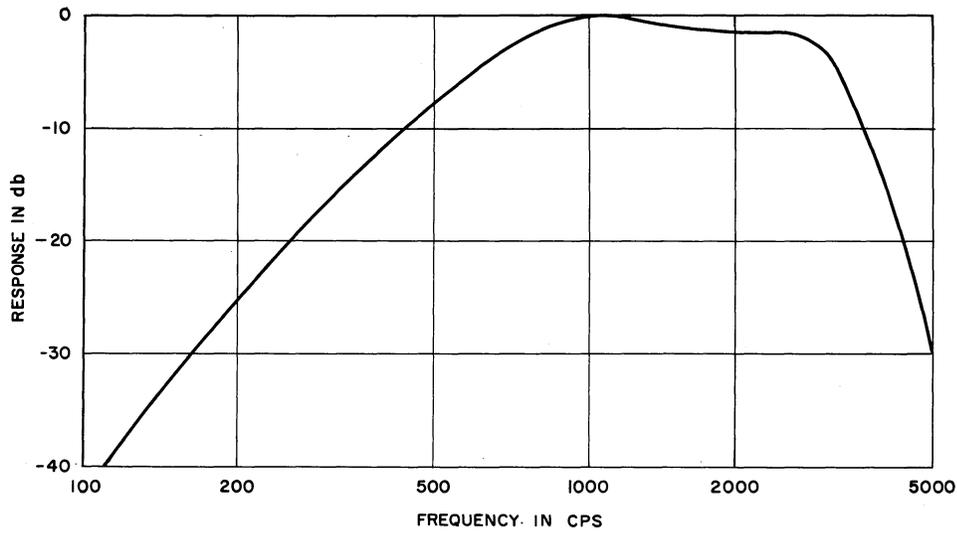

Fig. 5 - C-Message Weighting
3.08 The nominal frequency response of the 3A set using each of these networks is given in Fig. 5 through 7.